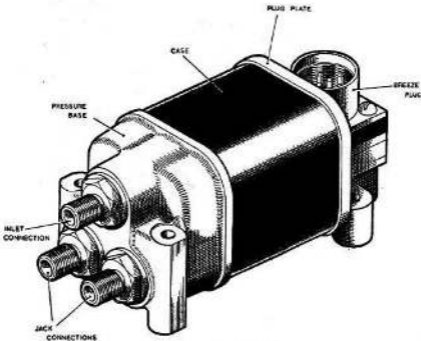

Fig. 4. Electromagnetic valve (AC1119)
8. The electromagnetic valve (Fig. 4), which is designed to actuate a double-acting jack, is made up of three parts, a pressure base, a case, and a plug plate, secured together by a threaded centre spindle. To the pressure base are fitted the air connections, and at the opposite end of the valve is a 5-pin Breeze plug, mounted on the plug plate.